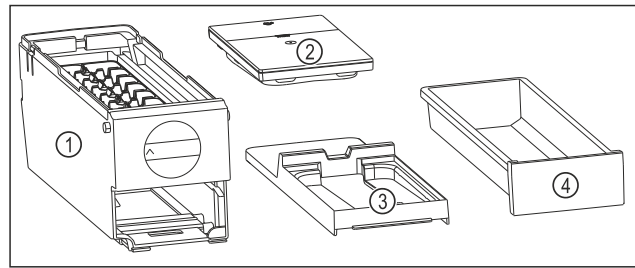

Fig. 147 Components of the EasyTwist-Ice
- ▷ EasyTwist-Ice is dismantled into four parts. (see Fig. 147)
- ▶ Only dismantle the EasyTwist-Ice into the components shown. (see Fig. 147)
- ▶ Clean the EasyTwist-Ice body Fig. 147 (1) as a whole.